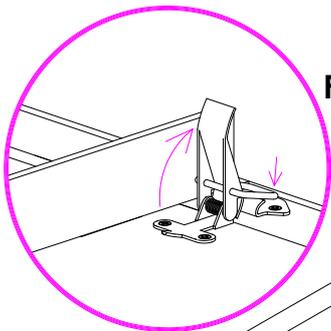

FIGURE 01
1. Gently, lay the table top (A) upside down on a soft flat surface. Unlock the metal locks underneath of the table top and open both of the table top. Refer to **FIGURE 01**.